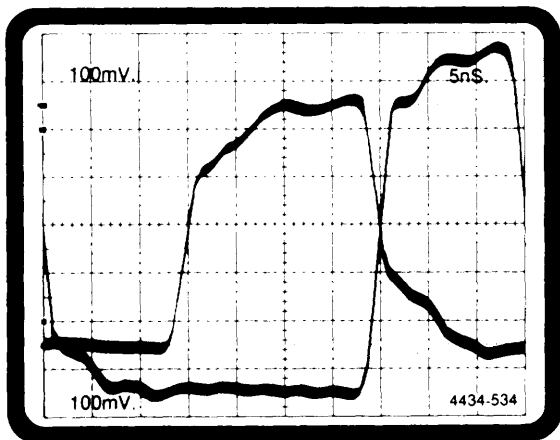

Figure 5-60. 338 Parallel data acquisition test waveform #1.
13. Adjust DD501 EVENTS LEVEL slowly until the channel 2 waveform's falling edge crosses the channel 1 waveform's rising edge at 0 V (mid-screen). See Figure 5-60 (20 ns setup, 0 ns hold).